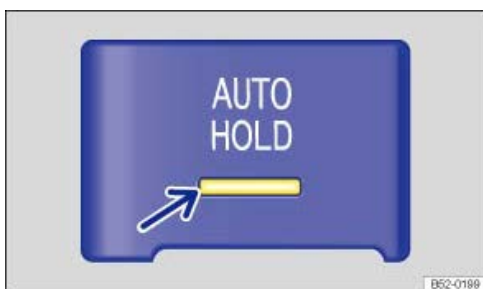

Fig. 174 In lower part of centre console: button for Auto Hold function.
The indicator lamp in the **AUTOHOLD** button → Fig. 174 (arrow) lights up when the function is switched on.
The indicator lamp in the button → Fig. 174 (arrow) goes out when the Auto Hold function is switched off. The electronic parking brake switches
- Press the  → Fig. 174 button. The Auto Hold function is deactivated.